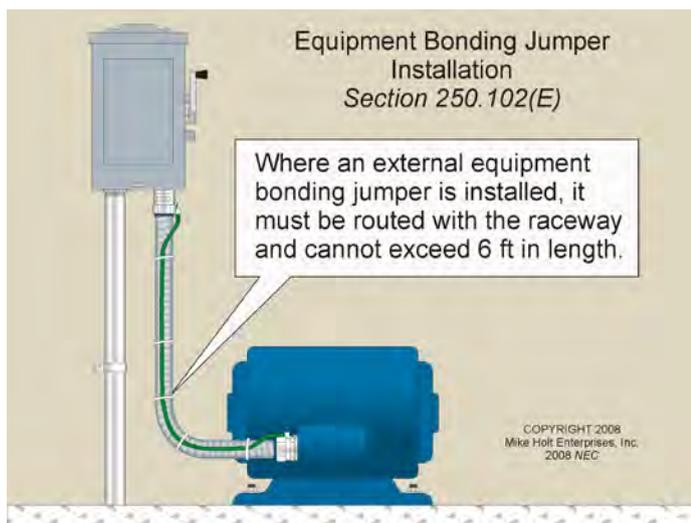

Figure 300-3
(2) Grounding and Bonding Conductors. Equipment grounding conductors can be installed outside of a raceway or cable assembly for certain existing installations. See 250.130(C). Equipment grounding jumpers can be located outside of a flexible raceway if the bonding jumper is installed in accordance with 250.102(E). **Figure 300-3**